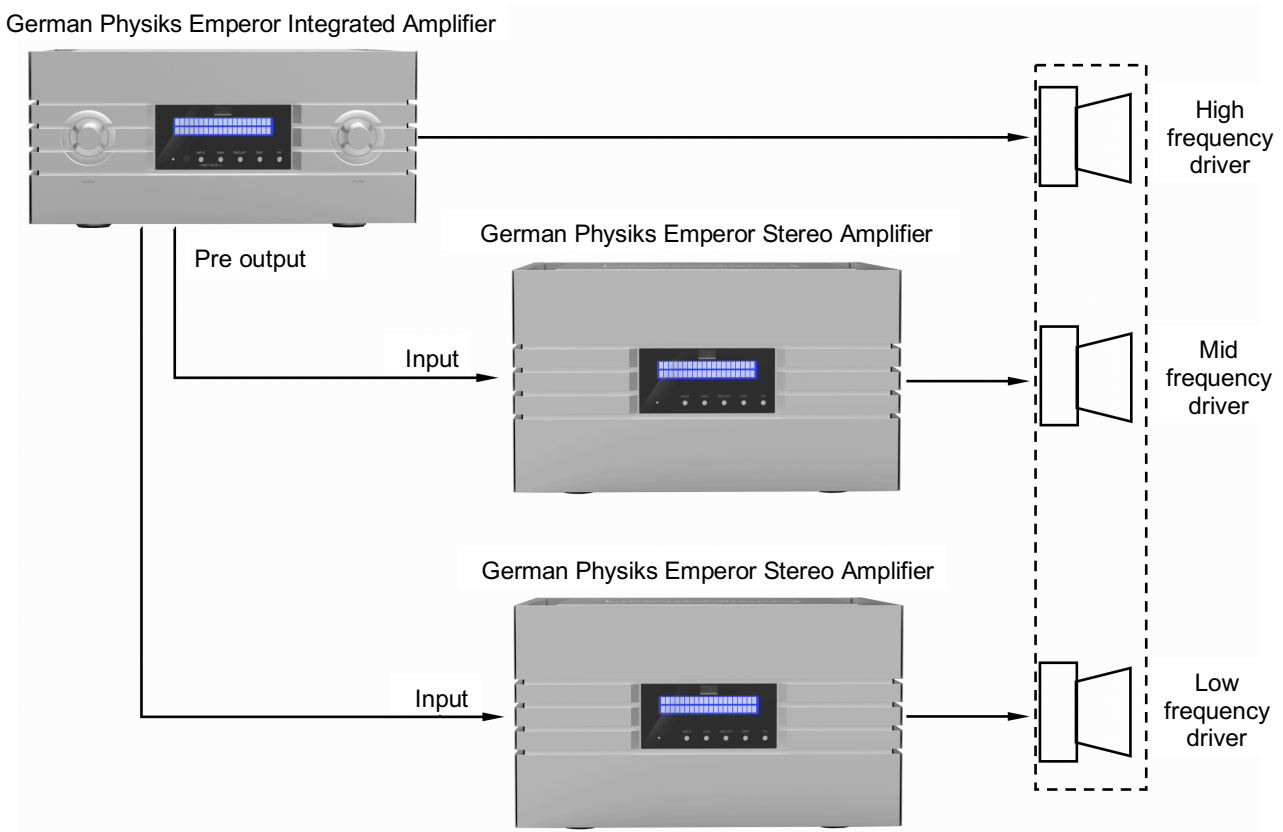

Figure 5. Multi-amped system.
In a multi-amped system, each section of the loudspeaker is driven by a separate power amplifier. This is only possible if the loudspeaker has separate input terminals for each section of its crossover. Figure 5 show how a system with a 3-way loudspeaker would be configured for multi-amping. For clarity, only one loudspeaker is shown. With a 2-way loudspeaker, only one additional power amplifier per channel would be needed.
1. Set the equipment shown in figure 5 in the locations where they are to be used, paying attention the ability of any supports used to be able to carry the loads imposed, cautions regarding not blocking cooling vents and the other safety precautions mentioned at the start of this manual.